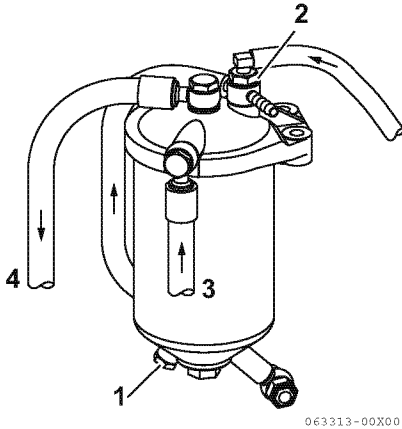

Figure 4
3. Loosen the air bleed screw (Figure 4, (2)) half turns.